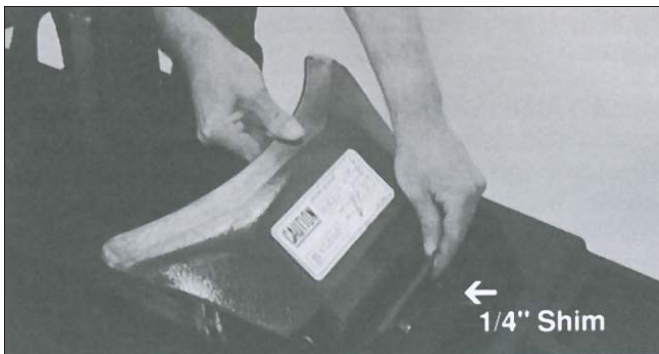

Figure 17- Installing 1/4" Shim
**1.** Check the clearance on the lower bead loosener shoe. If it does not clear the rim lip, install the 1/4" shim (figure 17).